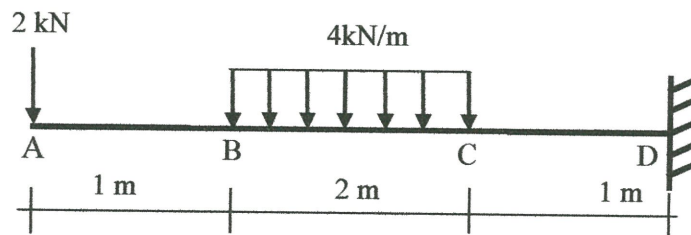

FIGURE Q4
- (b) **FIGURE Q4** shows a cantilever beam carries the uniform distributed load of 4 kN/m and 2 kN at BC and point A, respectively. Modulus of elasticity of the beam is 200 GPa. The beam cross section is T shaped with flange width of 150 mm and flange thickness of 10 mm, web height of 120 mm and web thickness of 8 mm. By applying Macaulay method,